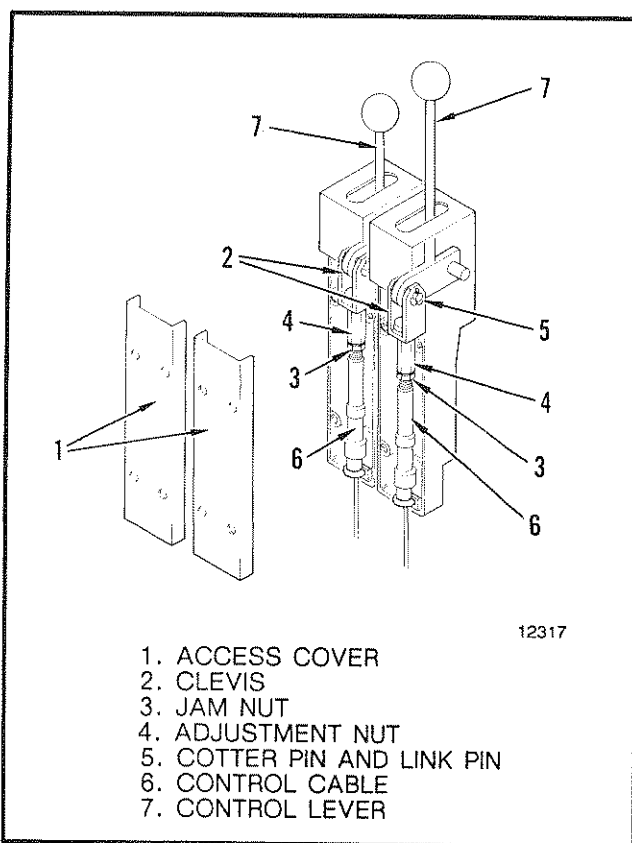

FIGURE 3-3. CONTROL CABLE ADJUSTMENTS
B. See FIGURE 3-3. Check that the positions of the power control lever are the same as the position indicators on the control housing. Remove the access cover on the housing to make adjustments. Loosen the jam nut that keeps the adjustment nut and clevis from turning. Remove the cotter pin and link pin from the clevis. Turn the adjustment nut and clevis to adjust the length of the the control cable. Use the link pin and cotter pin to connect the clevis to the control handle again and check the operation. When the adjustment is complete, install the access cover.
Check that the positions of the **FREESPOOL** lever are the same as the position indicators on the control housing. See FIGURE 3-3. Remove the access cover on the housing. Loosen the jam nut that keeps the adjustment nut and clevis from turning. Remove the cotter pin and link pin from the clevis. Turn the adjustment nut and clevis to adjust the length of the the control cable. Use the link pin and cotter pin to connect the clevis to the control handle again and check the operation. When the adjustment is complete, install the cover. The linkage and cable must be adjusted so that the **FREESPOOL**